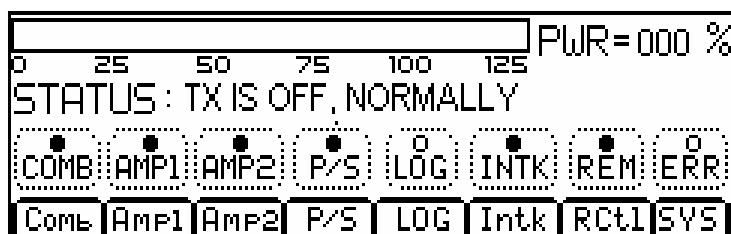

Figure 4 Main Menu
- On the LCD (see Main Menu display in Figure 4), the PWR should be at 000% and the STATUS should be TX IS OFF, NORMALLY.